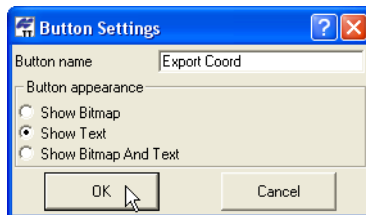

Figure 1-34. Apply Button Settings
2. On the *Button Settings* dialog box, type a name for the button (or use the default name) (Figure 1-34).
3. Select a *Button appearance* (Figure 1-34):